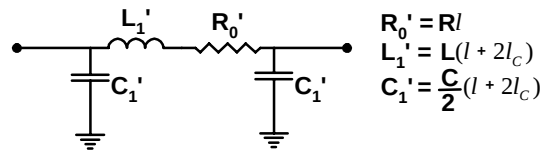

Figure 13b Equivalent circuit of chip resistor
The equivalent circuit then becomes that shown in **Figure 13b**. (We neglect, as earlier, G compared to ωC .) Note that the circuit contains both inductance and capacitance parasitics, though most vendors electrically characterize a chip resistor only by the latter. C_1' is then given by half the value calculated in (14), while L_1' is given by